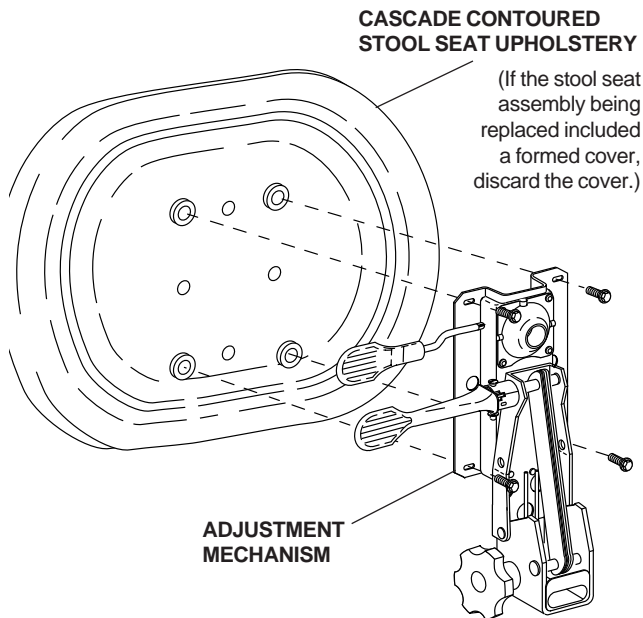

FIGURE 6
- Place the seat cushion on a firm, flat surface. The two (2) threaded inserts that are closest to the edge of the cushion are at the back of the seat cushion (see Figure 6).